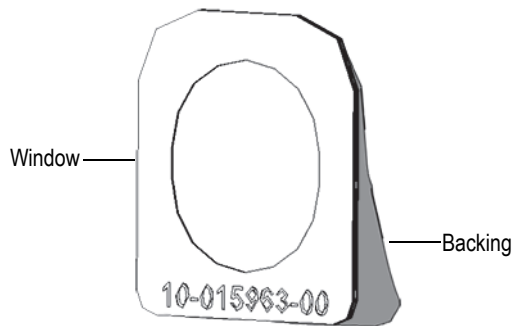

Figure 4-7 Peeling the window from its backing
1. Remove the window from its packaging and peel the backing material completely off the window (Figure 4-7 on page 64).